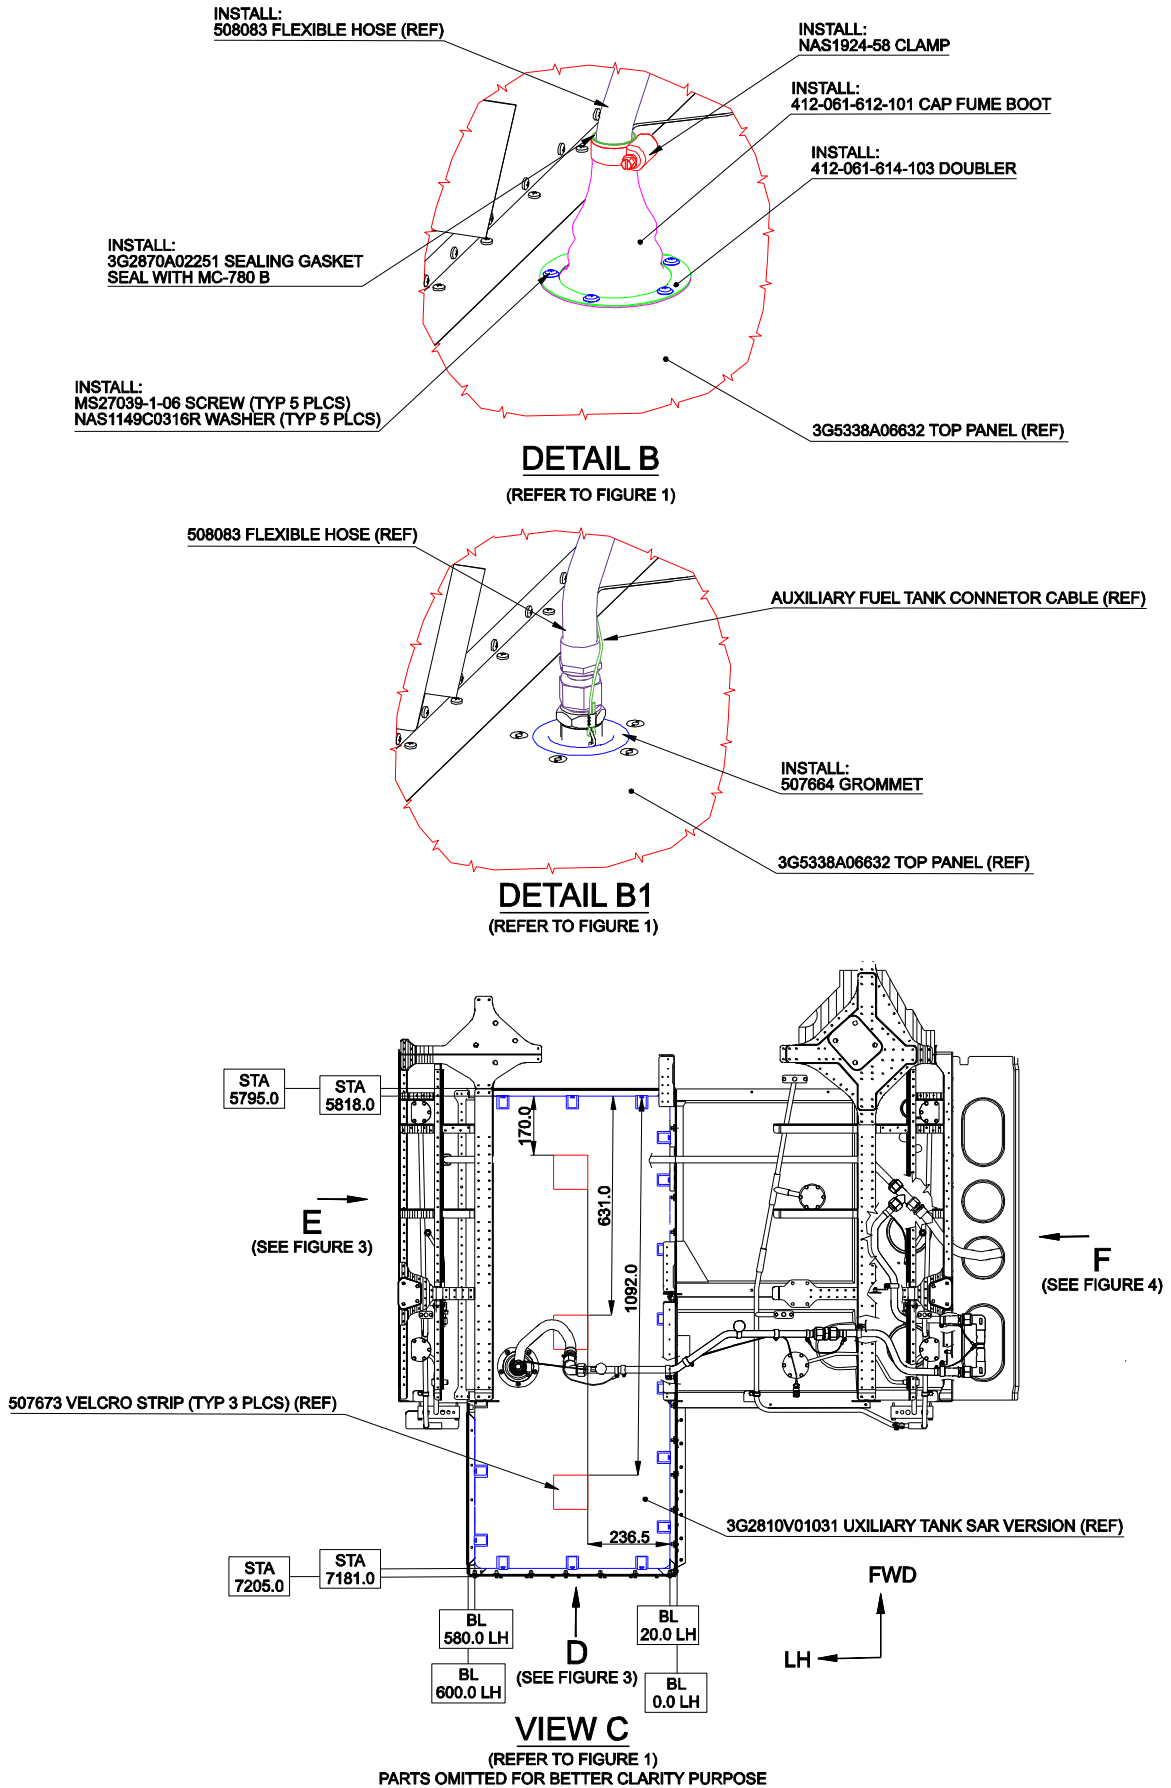

Figure 2
10. With reference to Figure 2 Detail B1, install the grommet P/N 507664 and the flexible hose P/N 508083 on the auxiliary fuel tank vent port and tighten the end fitting to the standard torque value. Make sure that the cable of auxiliary fuel tank connector passes through the grommet.
11. With reference to Figure 2 Detail B, install the cap fume boot P/N 412-061-612-101 and the doubler P/N 412-061-614-103 on the top panel by means of n°5 screws P/N MS27039-1-06 and n°5 washers P/N NAS1149C0316R.
13. With reference to Figure 2 Detail B, secure the top side of the cap fume boot P/N 412-061-612-101 to the flexible hose P/N 508083 by means of n°1 clamp P/N NAS1924-58 and n°1 sealing gasket P/N 3G2870A02251.
14. With reference to Figure 2 Detail B, seal all around the sealing gasket with a fillet of sealant MC-780 B.
(REFER TO FIGURE 2)